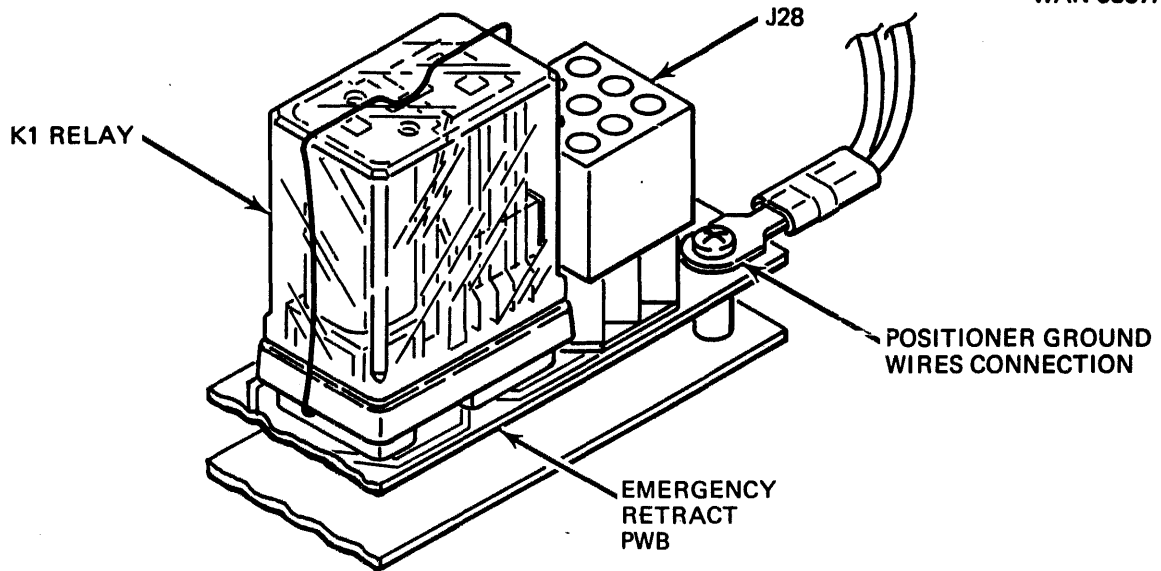

Figure 5-25. Emergency Retract PWB Assembly
5.4.3.21 Emergency Retract PWB Assembly. This printed circuit board is located at the rear side of the Disc Drive, and is mounted next to the positioner assembly. To replace this circuit board, see Figure 5-25 and perform the following steps: